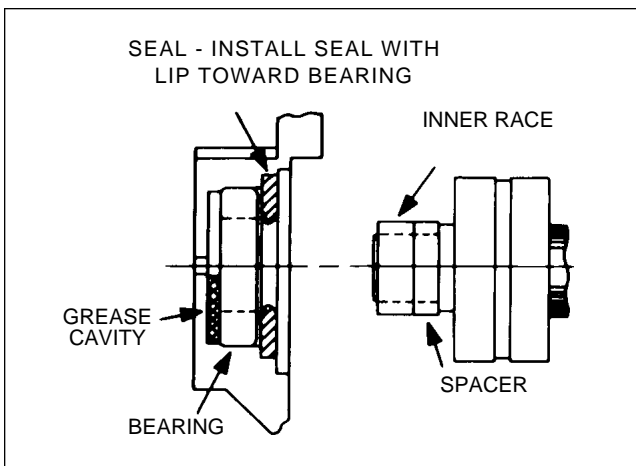

Figure 24-53. Slip Ring End Bearing Assembly
- e. Install slip ring end bearing and oil seal. Verify oil seal lip is toward bearing. Stake oil seal in place. Assemble bearing, seal, inner race, and spacer as in Figure 24-53.